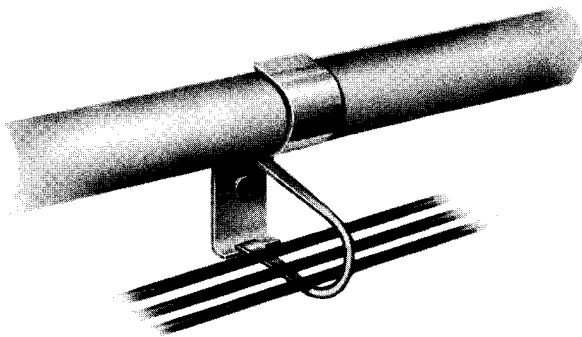

Fig. 7 – Drop Wire and Cable
1. Use rings installed with cable clamps as shown in Fig. 7.